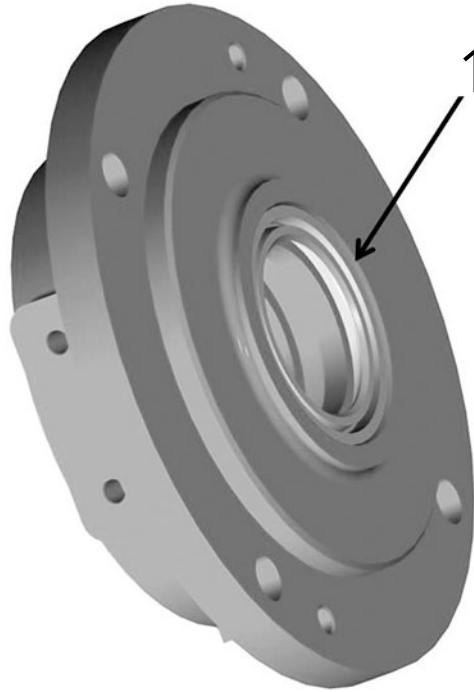

Figure 51: Lip seal installed inside bearing housing
16. Place the shoulder ring (item 1) into the bearing housing.
17. Press the bearing (item 2) into the bearing body until it sits flush against the inner shoulder of the bearing body.
18. Press a new lip seal (item 3) into the bearing body. Before installing the lip seal, lubricate the lip seal with lightweight oil.
**NOTE:** Lip seals should sit against the machines shoulder in the bearing body. The lip seal should face away from the mechanical seal seat. (see Figure 51)